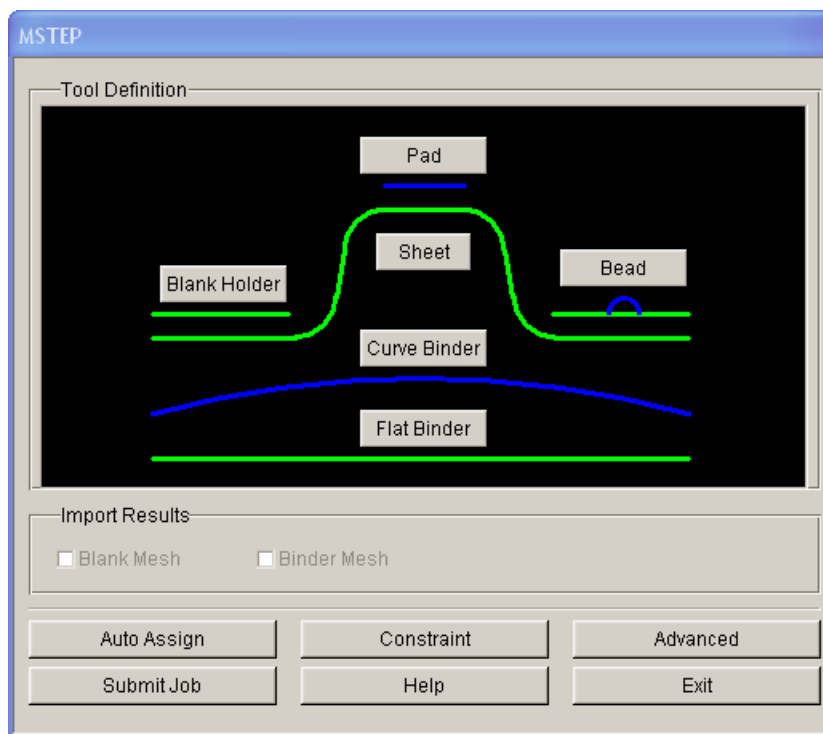

Figure 3.51: MSTEP GUI
3. Select menu **BSE**→**MSTEP** to open MSTEP solution module. See figure 3.51.